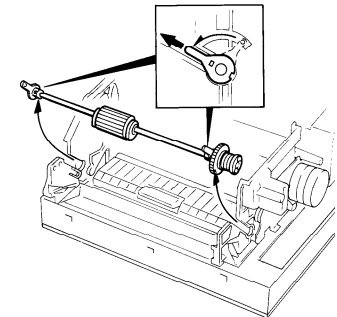

Figure 1. Paper feed roller
7. Position the bearings on the roller to align with slots in the frame (figure 1).